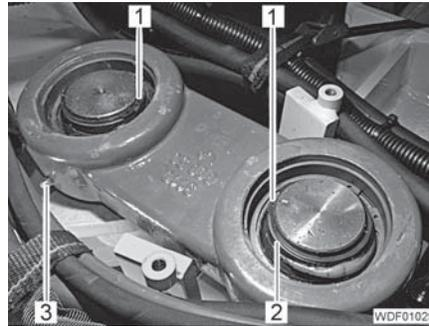

Fig. 295 Retaining mount of the self-aligning bearing
- If necessary, fit shim washers (Fig. 295,2) onto the pins.
- Insert 1 locking ring (Fig. 295,1) for each.
- Screw the grease nipple (Fig. 295,3) into the self-aligning bearing.